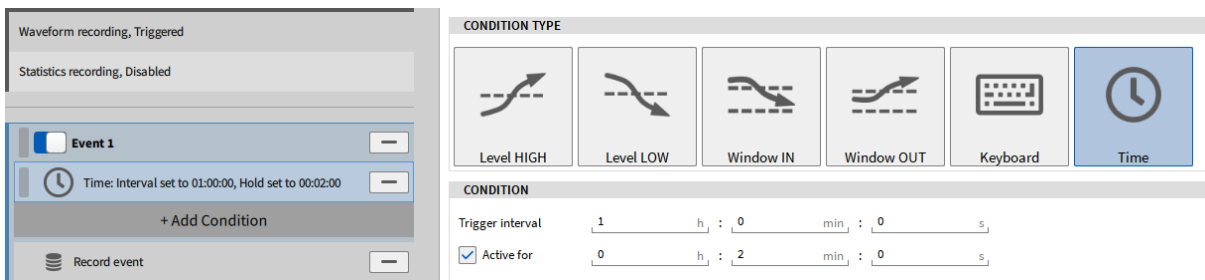

Figure 7-29: Recording every 60 minutes for 2 minutes
- Select the *Time* Condition and enter *1h* as *Time interval* and enable *Active for 2 minutes* (see Figure 7-29):